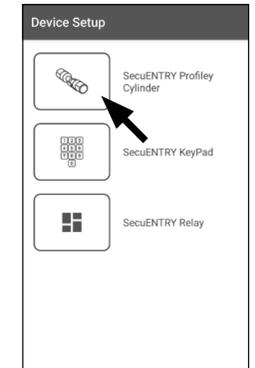

Fig. 8
- Use the selection menu displayed and tap on "secuENTRY Profily Cylinder" to setup your secuENTRY cylinder (Fig. 8).